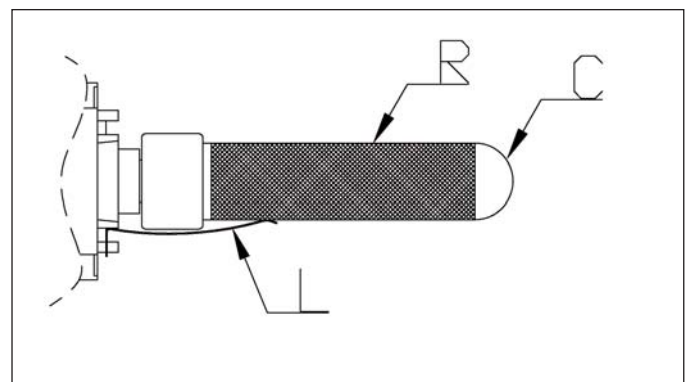

fig. 19
- Gently unscrew the capacitor (C fig. 19).
- Remove the external net (R fig. 19) of the tube: if the operation results to be difficult, rotate slightly the net around the quartz capacitor.
- Control that the small flap (L fig. 19) touches the metallic net and presses on the quartz glass of the capacitor (C fig. 19).